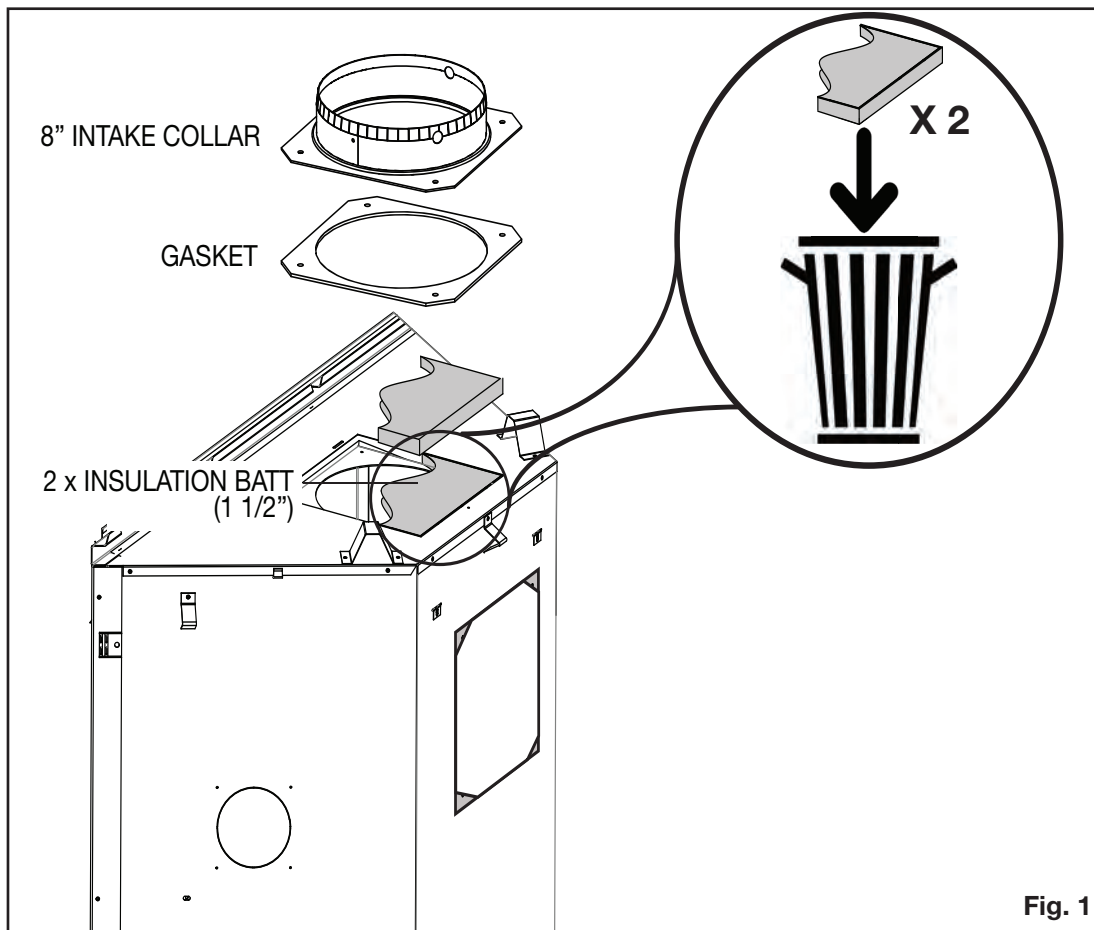

Fig. 1
- Remove both 1 1/2" (38.1mm) thick batts of insulation and **discard (Fig. 1)**.